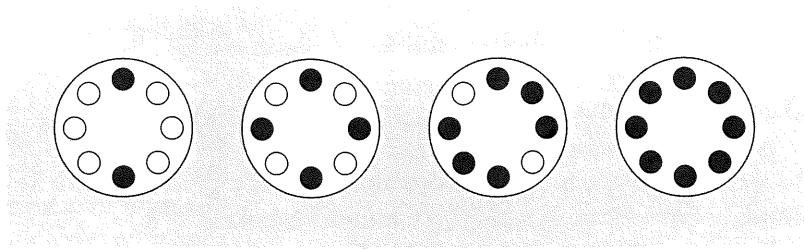

Figure 1. Arranging Tubes in the Rotor. Two, four, six, or eight tubes can be centrifuged per run if they are arranged in the rotor as shown.
2. Load the filled containers symmetrically into the rotor. (Refer to TUBES AND BOTTLES on page 12 for information about containers.) If fewer than eight tubes are being run, they must be arranged symmetrically in the rotor (see Figure 1). Opposing tubes must be filled to the same level with liquid of the same density.